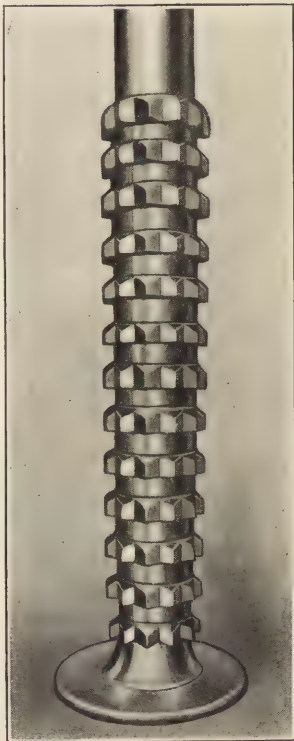

Fig. 22. 1 1-8" Broach
**Treatment of a Broach.**—The  $1\frac{1}{8}$ -inch broach, Fig. 22, has 204 teeth or separate cutting parts, and it is a very expensive tool to make. It was dipped at a low heat in salt water, and while the body of tool was still a little red it was thrown in oil and allowed to remain there until it was cold. I have watched this tool at work and it has a hard task to perform broaching holes in machine steel forgings used in making